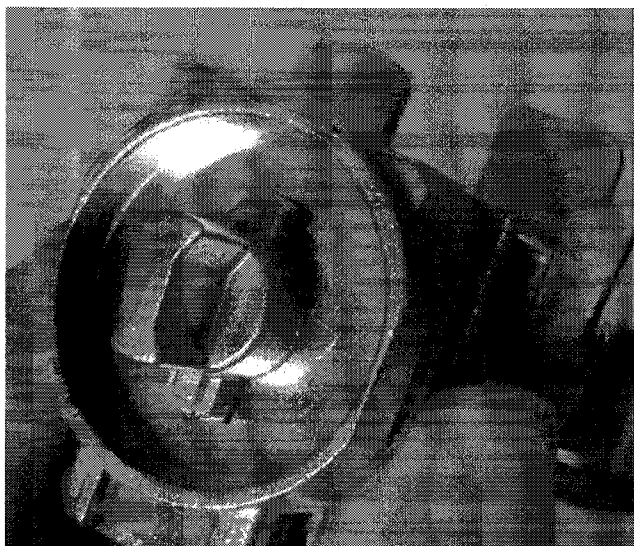

Fig. 5 Lock Cylinder Assembly - Cylinder Releasing Position
7. Turn the key to the releasing position as shown in (Fig. 5).